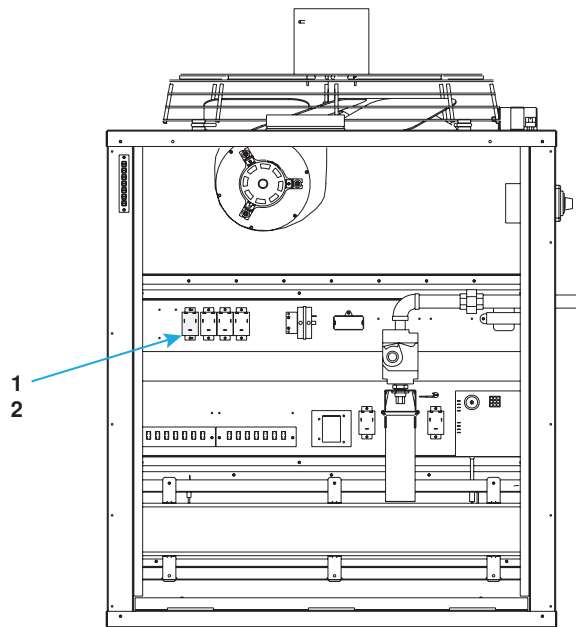

Figure 6. Relay Installation—Model LDAP (Refer to Table 1)
- (1) Remove control compartment access panel from main heat section.
- (2) Position relay assembly (1) as shown in Figure 6 and secure using screws (2).
- (3) Install control compartment access panel.